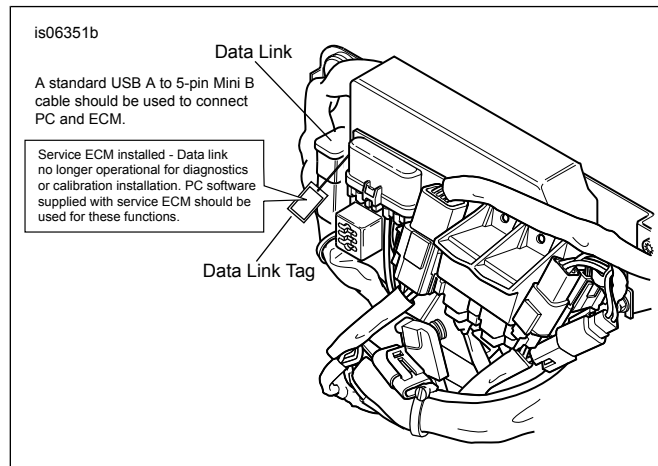

Figure 6. Data Link Tag
6. See Figure 6. Install the Data Link Tag using the supplied wire tie.